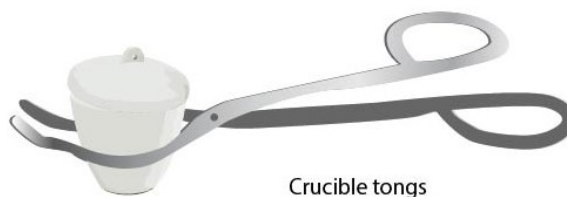

Figure GA.4: How to hold a crucible in crucible tongs.
- While the precipitate settles, prepare your crucible by heating it in the hottest part of the Bunsen burner flame for about 2 minutes (use the crucible tongs, cradling the crucible as demonstrated by the instructor and shown in Figure GA.4—never pick up a crucible by pinching the walls). Repeat with the lid. Place the hot crucible and lid on the metal base of the stand to cool.